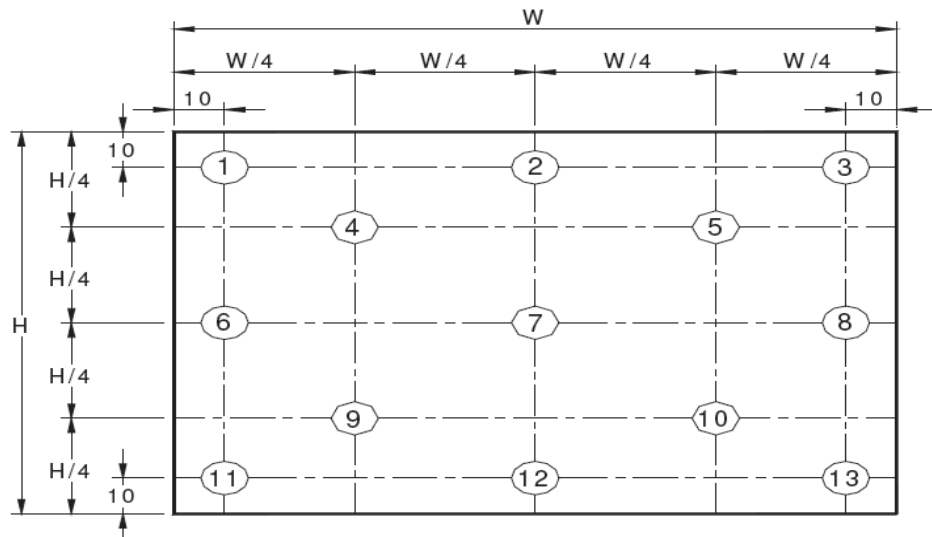

Figure 9. Uniformity Measurement Locations (13 points)
<p>Notes :</p> <ol style="list-style-type: none"> Viewing angle is the angle at which the contrast ratio is greater than 10. The viewing angles are determined for the horizontal or 3, 9 o'clock direction and the vertical or 6, 12 o'clock direction with respect to the optical axis which is normal to the LCD surface (see Figure 7). Contrast measurements shall be made at viewing angle of $\Theta = 0$ and at the center of the LCD surface. Luminance shall be measured with all pixels in the view field set first to white, then to the dark (black) state . (see Figure 7) Luminance Contrast Ratio (CR) is defined mathematically. $CR = \frac{\text{Luminance when displaying a white raster}}{\text{Luminance when displaying a black raster}}$ Center Luminance of white is defined as luminance values of 5 point average across the LCD surface. Luminance shall be measured with all pixels in the view field set first to white. This measurement shall be taken at the locations shown in Figure 8 for a total of the measurements per display. The White luminance uniformity on LCD surface is then expressed as : $\Delta Y = \text{Minimum Luminance of 5(or 13) points} / \text{Maximum Luminance of 5(or 13) points.}$(see Figure 8 and Figure 9). The color chromaticity coordinates specified in Table 5 shall be calculated from the spectral data measured with all pixels first in red, green, blue and white. Measurements shall be made at the center of the panel. The electro-optical response time measurements shall be made as Figure 10 by switching the “data” input signal ON and OFF. The times needed for the luminance to change from 10% to 90% is T_r, and 90% to 10% is T_f. Cross-Talk of one area of the LCD surface by another shall be measured by comparing the luminance (YA) of a $10 \pm 1\text{mm}$ diameter area, with all display pixels set to gray 127(of 0 to 255), to the luminance (YB) of that same area when any adjacent area is driven dark.The luminance ratio shall not exceed 1:1.05 (See Figure 11).
The White luminance uniformity on LCD surface is then expressed as : $\Delta Y5$ = Minimum Luminance of five points / Maximum Luminance of five points (see Figure 8) , $\Delta Y13$ = Minimum Luminance of 13 points /Maximum Luminance of 13 points (see Figure 9).